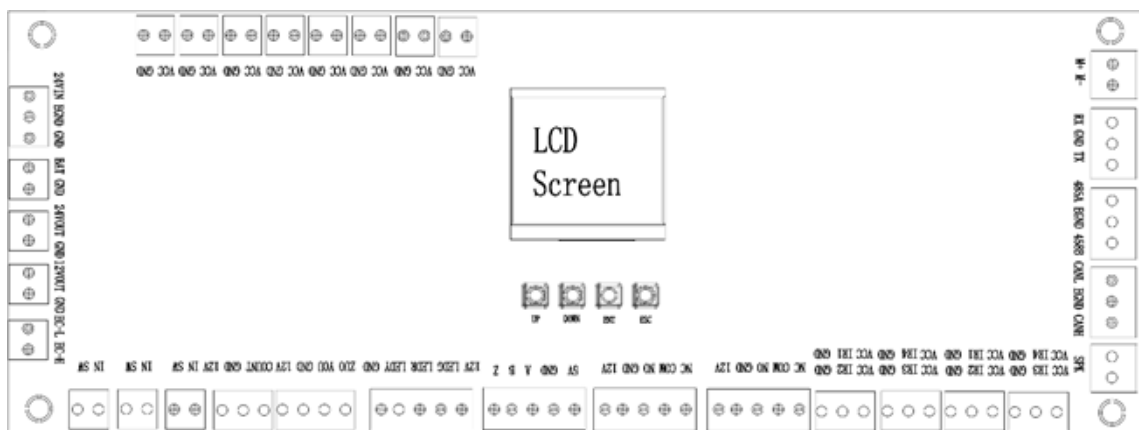

figure 3.1
2. There are 4 buttons on the control board: UP, DOWN, ENT, and ESC, show as Figure 3-1: